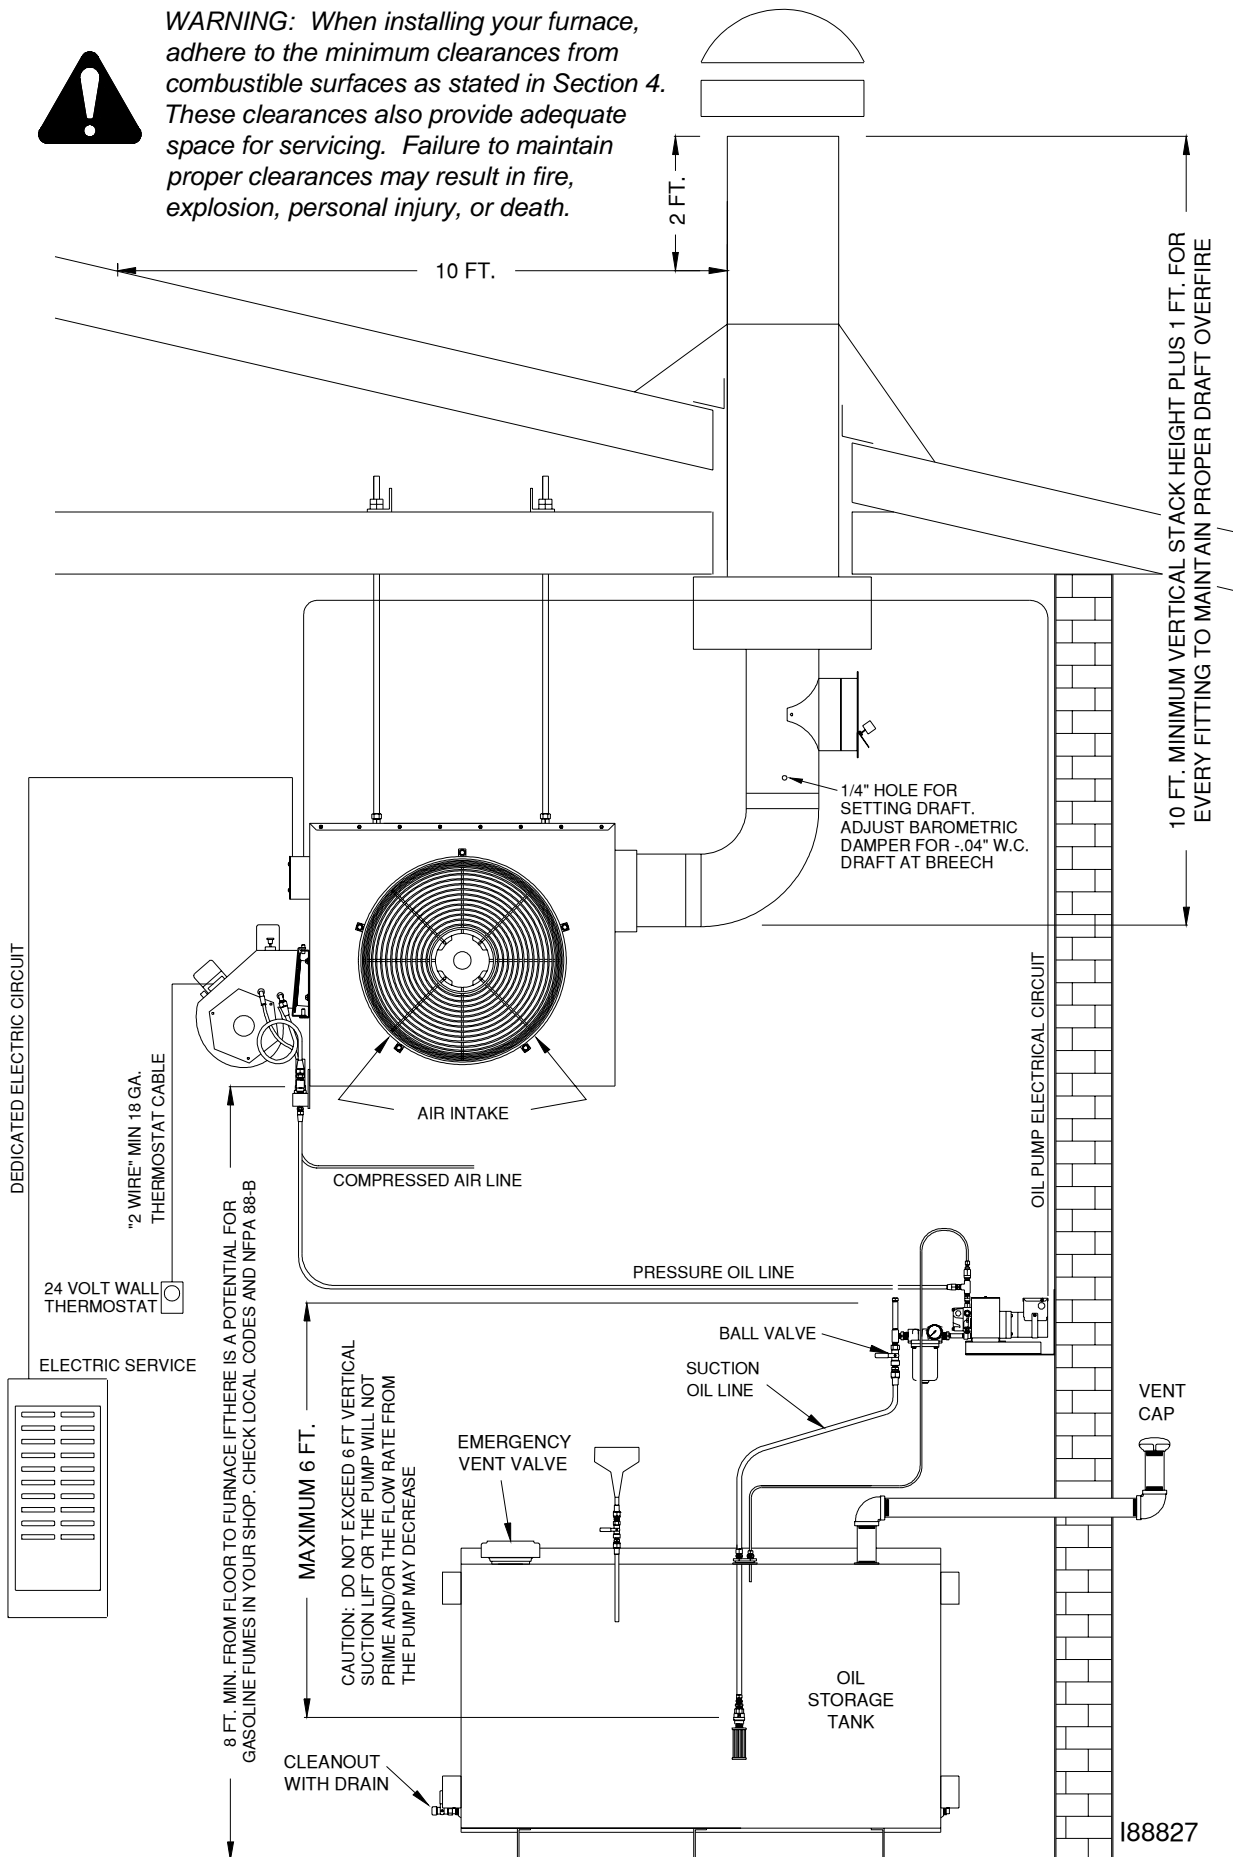

Figure 4A - Typical Furnace Installation
Clean Burn recommends that you review all procedures before beginning installation, paying careful attention to safety information statements. Figure 4A provides a general overview of a typical furnace installation and should be reviewed closely before proceeding.
- For optimal system functioning, Clean Burn recommends **inside tank installations** as shown in Figures 4A, 4F, and 4J.
- Carefully review the oil tank and pump installation details as shown in Figures 4A, 4F, and 4J. Pertinent information is also supplied with the metering pump and oil line installation procedures (following in Section 4).